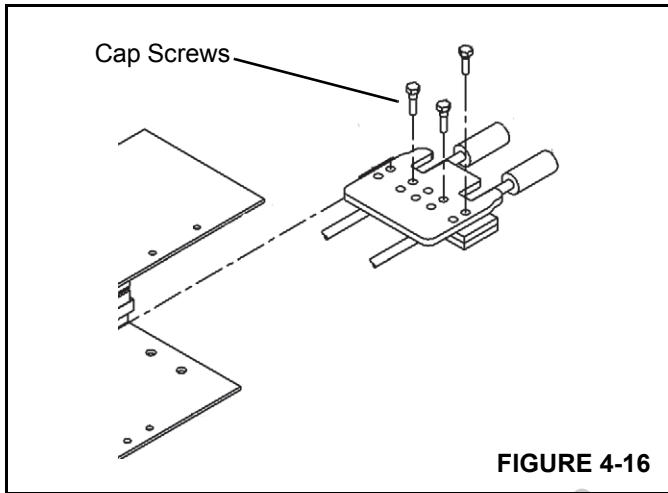

FIGURE 4-16
5. At the base end of the 4th section (Figure 4-16) install the anchor assembly in the following order: